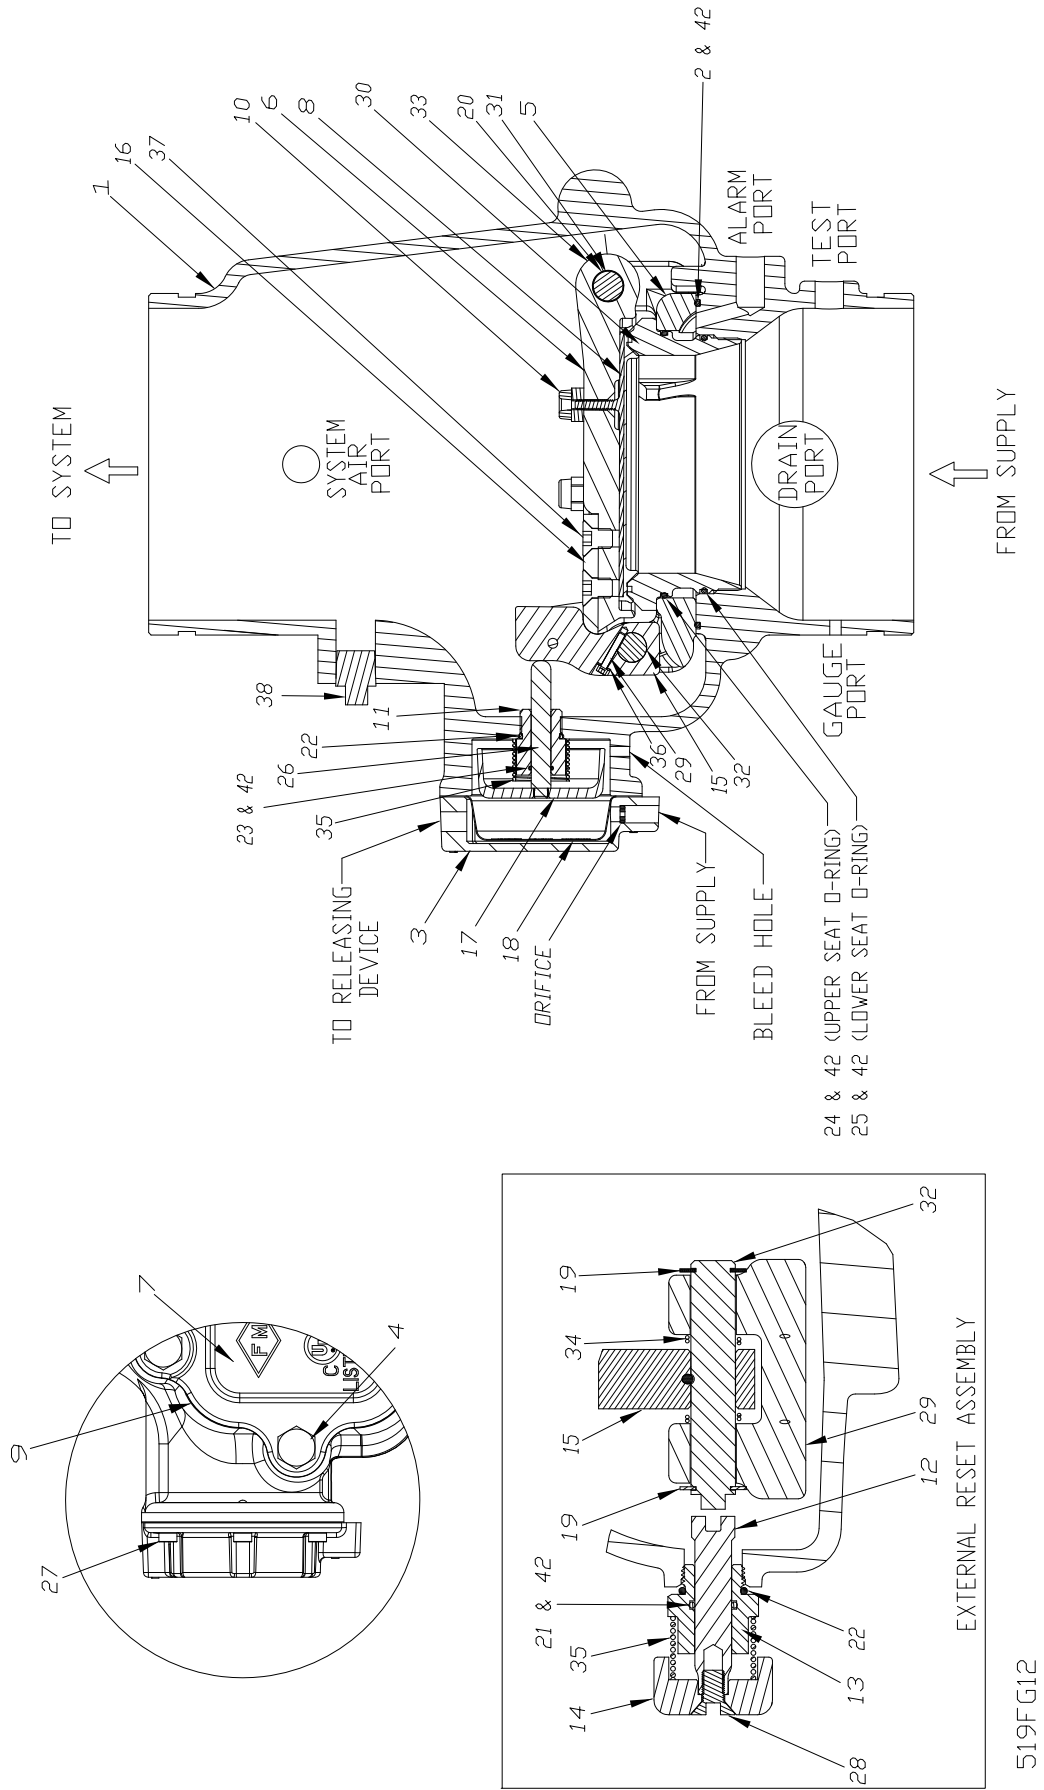
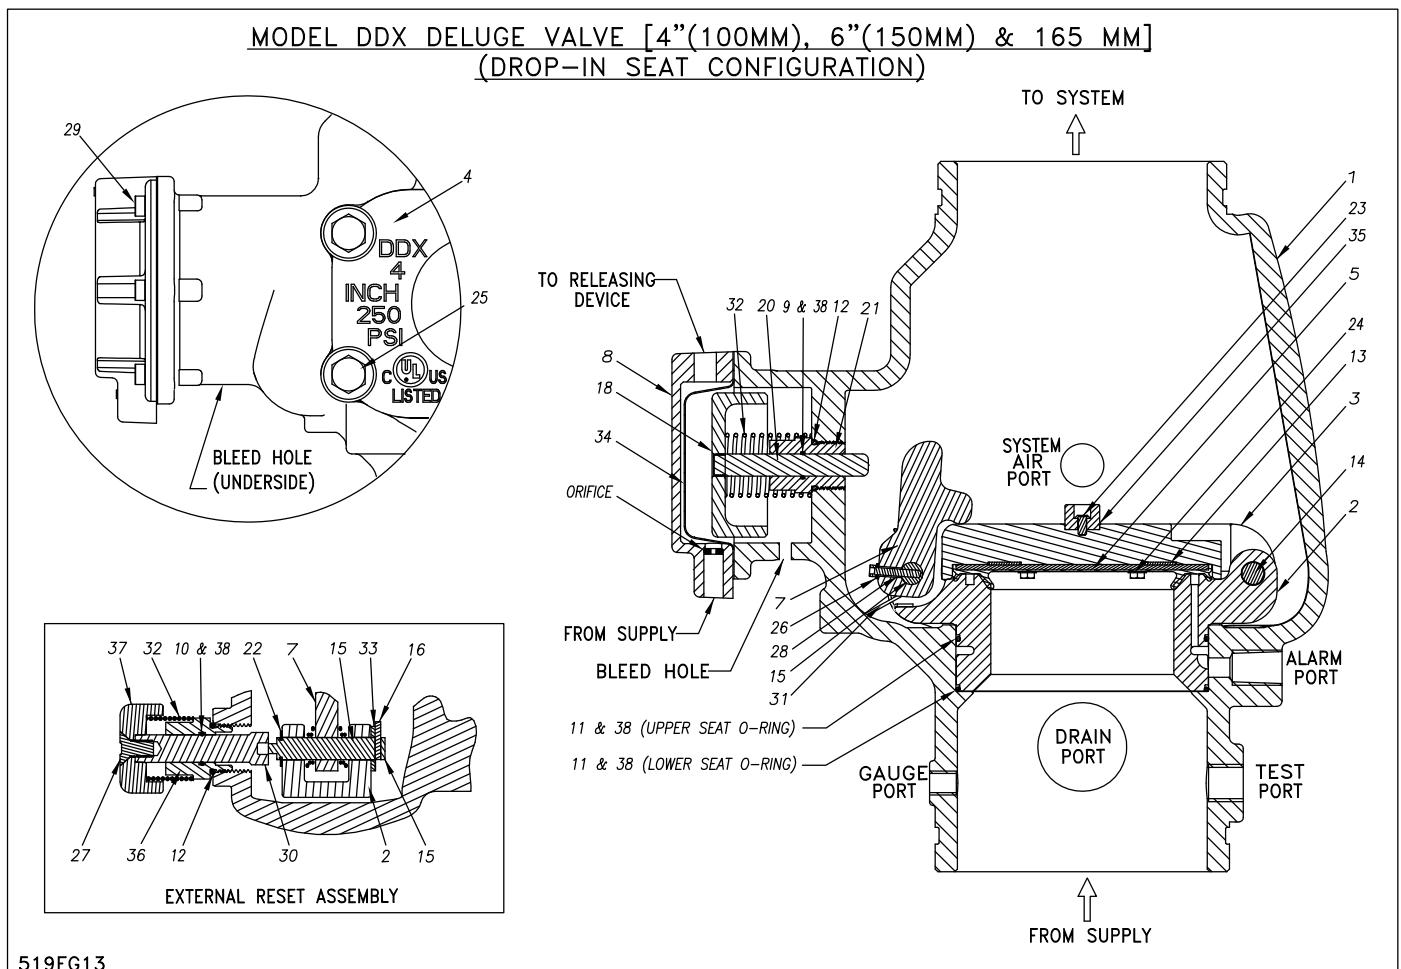

Fig.7
Fig. 8
6. With the Model B Manual Emergency Station, valve D (Fig. 9) open, push in and rotate the Deluge Valve's external reset knob (#14, Fig. 7 or #38, Fig. 8) clockwise, until you hear a distinct noise indicating that the clapper has reset. **Note: The reset knob can be rotated only while pressure in the pushrod chamber is vented to atmospheric conditions (0 psig).**
4. **Ball drip valve E (Fig. 9)**—Make sure valve G (Fig. 9) is open. Push in on the plunger to be sure ball check is off its seat. If no water appears, the Deluge Valve's water seat is tight. Inspect the bleed hole (see Fig. 7 of Fig. 8) on the underside of the push rod chamber for leakage.
This condition can be caused by leakage past the system side of the Model DDX Deluge Valve's seal assembly (#8, Fig. 7 or #5, Fig. 8). Be sure that this surface is free of any type of debris. To eliminate leakage due to water column in a deluge system, refer to the section in this bulletin marked “Draining Excess/Condensate Water From System”. If the problem continues proceed to the following section.
If system air is leaking out the ball drip valve, the problem is either damage to the airside of the Model DDX Deluge Valve's seal assembly (#8, Fig. 7 or #5, Fig. 8), seat (#29, Fig. 7 or #2, Fig. 8), the upper seat o-ring (#23, Fig. 7 or #11, Fig. 8) or, on the 8” (200 mm) valve size only, the mounting ring o-ring (#2, Fig. 7). If supply water is leaking out the ball drip valve, the problem could be caused by damage to the Model DDX Deluge Valve's seal assembly (#8, Fig. 7 or #5, Fig. 8), seat (#29, Fig. 7 or #2, Fig. 8), or lower seat O-ring (#24, Fig. 7 or #11, Fig. 8). The following section provides instructions to correct both conditions:
- B) Remove the Deluge Valve's front (handhold) cover (#7, Fig. 7 or #4, Fig. 8) and inspect the seat (#29, Fig. 7 or #2, Fig. 8), clapper (#6, Fig. 7 or #3, Fig. 8), and seal assembly (#8, Fig. 7 or #5, Fig. 8) for damage. If inspection indicates damage to the seal assembly (#8, Fig. 7 or #5, Fig. 8), replace as follows:
For Valve Sizes: 2” (50mm), 2½” (65mm), 76mm, 3” (80mm), 8” (200mm) and 4” (100mm), 6” (150mm) & 165mm with Screw-In Seat only, Refer to Fig. 2, Fig. 3 & Fig. 7:
Remove the bumpstop nuts (#10, Fig. 7) and remove the seal assembly (#8, Fig. 7). Install a new seal assembly (#8, Fig. 7) and thread
Model DDX (Screw-In Seat Configuration) Deluge Valves Parts List (Refer to Fig. 7)
Model DDX (Drop-In Seat Configuration) Deluge Valves Parts List (Refer to Fig. 8)
For Valve Sizes: 4" (100mm), 165mm, 6" (150mm) with Drop-In Seat Configuration only, Refer to Fig. 3 and Fig. 8:
At the rear of the valve, disconnect the water column drain trim section starting with the elbow connector (#21, Fig. 3). Then remove the ¼" globe valve (#32, Fig. 3), followed by the ¾"x¼" reducing bushing (#53, Fig. 3). Remove the retaining ring (hand hole cover side) from the clapper hinge pin (#14, Fig. 8) and push this pin through the hand hole condensate drain port and remove the
clapper subassembly. Remove the four retaining screws (#24, Fig. 8) holding the seal faceplate assembly (#5, Fig. 8). Inspect the clapper (#3, Fig. 8) visually before installing. Apply a small amount of silicone based lubricant to the four retaining screws. Install a new seal faceplate assembly. Torque the retaining screws to approximately 40 inch-pounds and reassemble. If the seat (#2, Fig. 8) is damaged or it is suspected that the leakage is through the lower o-ring (#11, Fig. 8), the seat-clapper subassembly is easily removed as a unit as follows:
Using a 5/16" Allen wrench, remove the two 3/8" NPT pipe plugs (#19, (not shown) Fig. 8) located on the side chamber side of the Model DDX deluge valve. The seat-clapper subassembly is retained by two locking pins (#17, (not shown) Fig. 8). The centers of these pins have a ¼"-20 threaded hole. Remove the two locking pins by engaging them with a ¼"-20 screw and pulling them out (the two locking pins are not externally threaded, so turning them with the attached ¼"-20 screw or threaded rod is not recommended. A proven method is to use ¼"-20 threaded rod with a locknut on the unassembled end. Grab hold of the locknut with a pliers or vise-grips and tap the pliers or vise-grips in the direction away from the Deluge Valve. Doing so should pull the locking pins out of the Deluge Valve. With the clapper (#3, Fig. 8) in the closed position (not latched), dislodge the clapper-seat subassembly from the valve body by inserting two slotted screwdrivers under the lever and clapper mounting ears and pry up until the clapper-seat subassembly is free from its bore. Reach into the valve and grasp the clapper-seat subassembly from the sides. Making sure the clapper is in the closed position (see Fig. 1), lift up and rotate the clapper-seat sub assembly clockwise 90 degrees so that the lever side of the assembly is facing up towards the outlet of the deluge valve. Next, rotate the clapper-seat sub assembly 90 degrees about the centerline of the valve so that the clapper is facing the hand hole opening and the lever is still facing the outlet of the deluge valve. Then rotate the clapper-seat sub assembly 90 degrees, so that the clapper is now facing the outlet of the deluge valve and the lever is now facing the back of the valve. Pull the clapper-seat sub assembly out through the hand hole opening by the hinge pin side. Rotating the seat-clapper subassembly up as it is being removed will help it slide out more easily since the lever will prohibit it from sliding straight out. Visually examine all components of the clapper-seat subassembly replacing any component that appears damaged. New o-rings (#11, Fig. 8) should always be used for reassembly.
Clean the bore of the valve body. Lubricate the bore with O-ring grease. Lubricate and install the O-rings (#23 & #24, Fig. 8) onto the seat. Lubricate and install the mounting ring o-ring (#2, Fig. 7) into the body (8" (200mm) valve size only). Insert the clapper-mounting ring subassembly into the handhold opening of the Deluge Valve using caution to not damage or dislodge the mounting ring o-ring (#2, Fig. 7)(8" (200mm) valve size only). Align the mounting ring so that the Lever (#15, Fig. 7) is near the pushrod (#25, Fig. 7) and the mounting ring (#5, Fig. 7) "ears" are between the tabs of the valve body (#1, Fig. 7). Insert the seat (#29, Fig. 7) into the valve body (#1, Fig. 7) and through the clapper-mounting ring subassembly. Start to tread the seat (#29, Fig. 7) into the body by hand, then tighten the seat (#29, Fig. 7) with Reliable P/N 6881603000 Seat Wrench for 2" (50mm), 2½" (65mm), 76mm and 3" (80mm) valve sizes, Reliable P/N 6881604000 Seat Wrench for 4" (100mm) valve size, Reliable P/N 6881060000 Seat Wrench for 6" (150mm and 165mm valve sizes or Reliable P/N 6881608000 Seat Wrench for 8" (200mm) valve size until it bottoms out on the mounting ring (#5, Fig. 7). Verify that the seat-clapper-mounting ring subassembly is in the fully down position between the tabs of the body, and check to see that the lever (#15, Fig. 7) lines up with the push rod (#25, Fig. 7). Loosen and reassemble if necessary. Reassemble the handhold cover (#7, Fig. 7) and set up the Model DDX Deluge Valve as per the section "Resetting Model DDX Double Interlock Type D Praction Systems."
For Valve Sizes: 4" (100mm), 165mm, 6" (150mm) with Drop-In Seat Configuration only, Refer to Fig. 8:
It is likely that the lower seat o-ring (#11, Fig. 8) has remained at the bottom of the Deluge Valve body's bore. Discard this o-ring and clean the bore. Lubricate the bore with o-ring grease and place the lower o-ring on the step at the bottom of the bore, verifying that it is in full contact with the bore. Lubricate the bottom step and upper o-ring (#11, Fig. 8) of the refurbished clapper-seat subassembly. Insert the clapper-seat sub assembly into the hand hole opening, lever (#7, Fig. 8) first and rotating the clapper-seat subassembly until the lever faces the outlet of the deluge valve. Next rotate the clapper-seat subassembly 90 degrees about the center axis of the valve until the bottom of the clapper-seat sub assembly faces the pushrod (#20, Fig. 8). Then rotate the clapper-seat subassembly 90 degrees counterclockwise so that the
clapper (#3, Fig. 8) is facing the outlet of the deluge valve and the lever (#7, Fig. 8) is facing the pushrod (#20, Fig. 8). Once the clapper seat subassembly is in this position simply slide the assembly into the bore of the valve, making sure it is straight to avoid binding of the seat in the bore. Slightly twisting the assembly will assist in getting the clapper-seat subassembly properly seated. Once it is verified that the clapper-seat sub assembly is in the fully down position and the lever (#7, Fig. 8) is aligned with the pushrod (#20, Fig. 8), clean and lubricate the two locking pins (#17, (not shown) Fig. 8) with o-ring lubricant. Slide the two locking pins into the deluge valve body to lock the seat in place. Slightly twisting and pressing down on the clapper-seat subassembly will help the pins to slide in more easily. Then reinstall the 3/8" NPT pipe plugs (#19, (not shown) Fig. 8). Reassemble the hand hole cover (#4, Fig. 8) and set up the Model DDX Deluge Valve as per the section "Resetting Model DDX Double Interlock Type D Praction Systems".
A small bleed hole is located on the underside of the push rod chamber (see Fig. 7 or Fig. 8). If there is air or water leakage coming out of this hole, do the following:
- Take the push rod chamber cover (#3, Fig. 7 or #8, Fig. 8) off by removing the six retaining screws (#26, Fig. 7 or #29, Fig. 8).
Water coming out of the bleed hole is caused by a leaking diaphragm (#18, Fig. 7 or #34, Fig. 8). Visually inspect the push rod chamber cover (#3, Fig. 7 or #8, Fig. 8), piston (#17, Fig. 7 or #18, Fig. 8) and valve bore (#1, Fig. 7 or #1, Fig. 8) to determine what could have damaged the diaphragm and correct. Install a new diaphragm. **NOTE: The diaphragm has two different surfaces: it is not bi-directional. It will fail if installed backwards!** Roll the diaphragm so that the smooth surface (the pressure side) conforms to the inside of the push rod chamber cover and reassemble the six retaining screws (#26, Fig. 7 or #29, Fig. 8) with an installation torque of 15 foot-pounds. Set up the Model DDX Deluge Valve as per the section "Resetting Model DDX Double Interlock Type D Praction Systems."
System air coming out of the bleed hole is caused by a defective O-ring assembled to the push rod guide (#11, Fig. 7 or #9, Fig. 8). Remove the piston-push rod subassembly, push rod spring (#34, Fig. 7 or #32, Fig. 8), and push rod guide (#11, Fig. 7 or #21, Fig. 8). Verify by hand turning, that the push rod cannot be unscrewed from the piston. Replace all O-rings and the push rod guide (#21, #22 & #11, Fig. 7 or #9, #12 & #21, Fig. 8). The correct installation torque for the pushrod guide is 35 inch-pounds. **CAUTION: Do not over tighten the push rod guide.** Reassemble
the components that were initially removed. Reinstall the diaphragm (#18, Fig. 7 or #34, Fig. 8) if it appears to be in good shape, otherwise, replace it also. **NOTE: The diaphragm has two different surfaces; it is not bi-directional. It will fail if installed backwards!** Roll the diaphragm so that the smooth surface (the pressure side) conforms to the inside of the push rod chamber cover and reassemble the six retaining screws (#26, Fig. 7 or #29, Fig. 8) with an installation torque of 15 foot-pounds. Set up the Model DDX Deluge Valve as per the section "Resetting Model DDX Double Interlock Type D Preaction Systems."